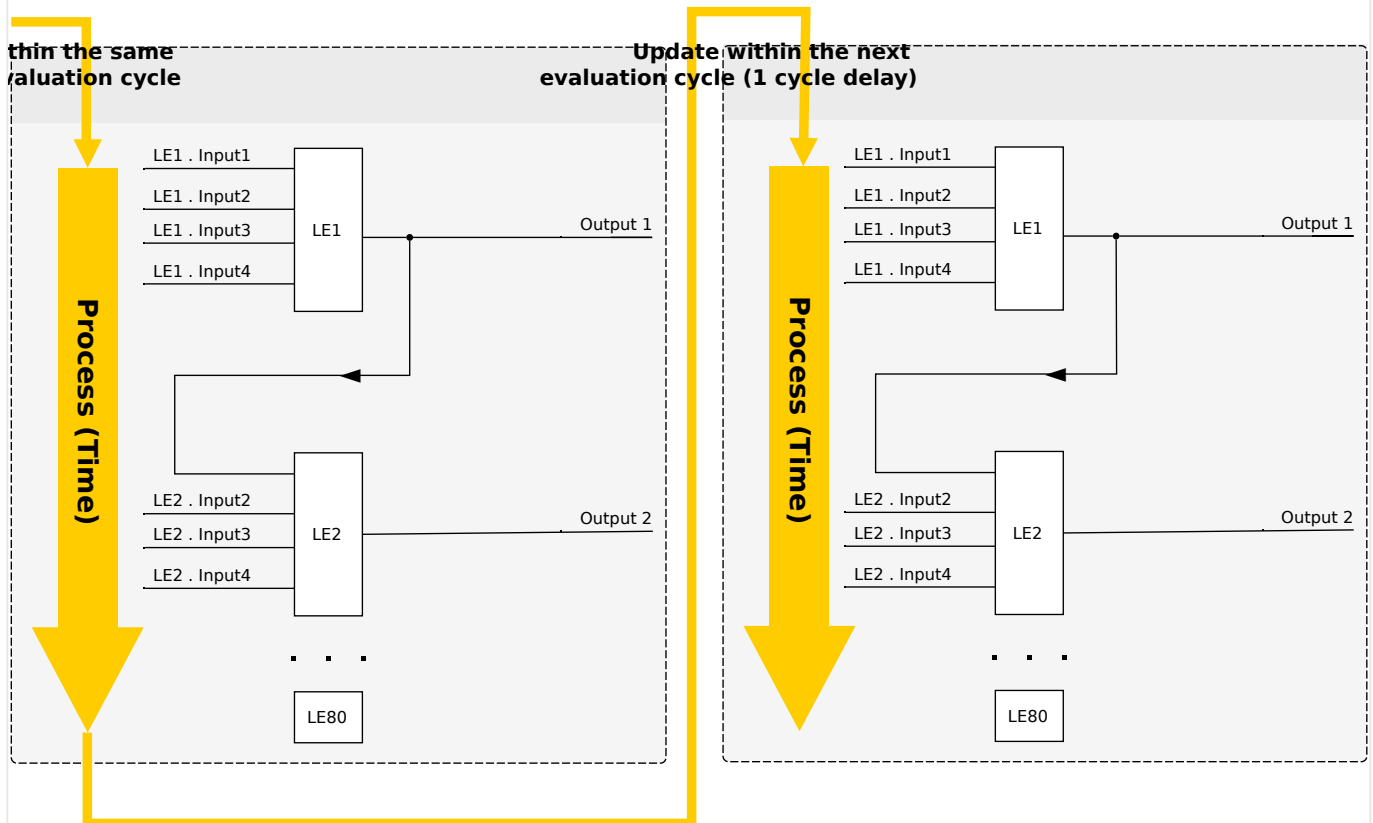
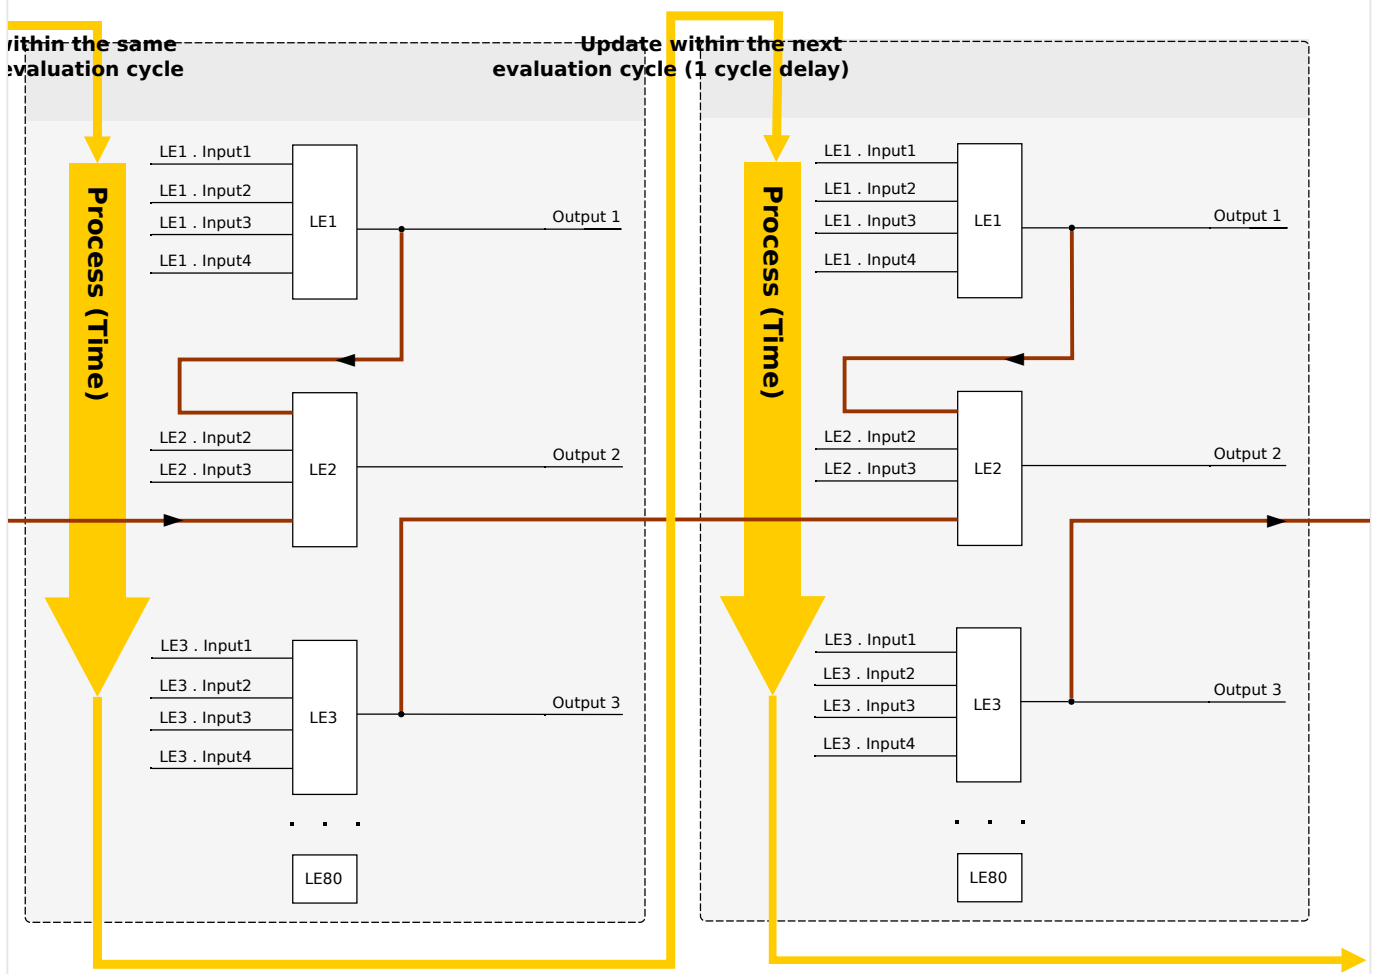

Fig. 109: Cascading in Ascending Order.
Fig. 110: Cascading in Descending Order.
- **Ascending** sequence means that some output is fed into the input of a logic equation with **higher** number. For instance, diagram ↪Fig. 109 below shows an example where the result of Logic Equation LE1 is used as an input of Logic Equation LE2.
- **Descending** sequence means that some output is fed into the input of a logic equation with **lower** number. For instance, diagram ↪Fig. 110 shows an example where the result of Logic Equation LE3 is used as an input of Logic Equation LE2.
Both ascending and descending sequences may be used and combined one with the other, with no immediate difference. However, due to the evaluation of all equations in ascending order the actual run-time values that are fed in at the input of an equation will have a different “age”, as is shown in ↪Fig. 109 and ↪Fig. 110 below.
In the example shown in Fig. 110 above, “Logic Equation 2” uses the output states of two other equations, “Logic Equation 1” and “Logic Equation 3”. The result of “Logic Equation 1” is used in ascending order and has therefore been evaluated within the same process cycle. The result of “Logic Equation 3” is used in descending order and has therefore been evaluated in the previous process cycle.